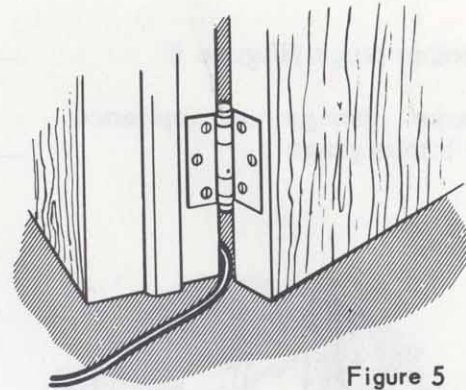

Figure 5
- 3. Extension cords run through doorways (Figure 5) _____